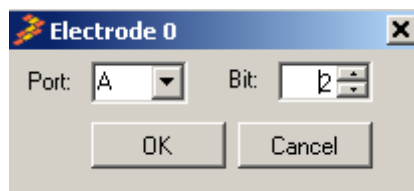

Figure 12. Electrode 0—TSSEVB schematic
2. Next, define the GPIO pin assigned to the electrode E0. Check the box in the circle to bring up another window. See Figure 12.
3. In Figure 12 looking at the TSSEVB schematic, notice that the electrode to activate is connected to Port A, bit 2. Set the values accordingly.